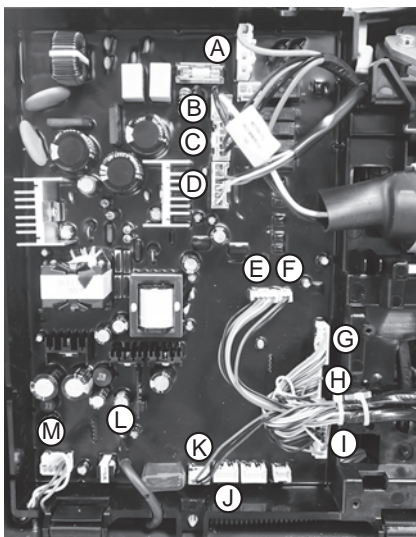

Figure 48 - Wiring harness connection points.
- 17** Using Figure 48, remove harnesses E - I and K.